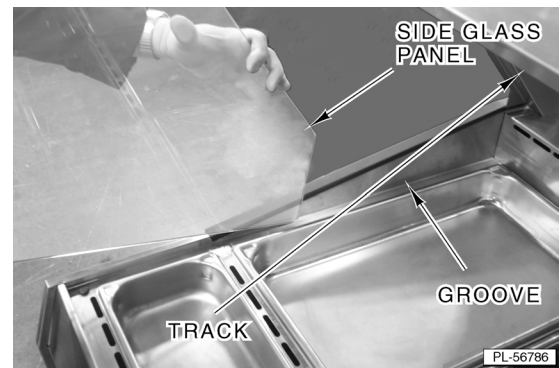

Fig. 1
1. Position the side of glass panel in the groove on the LEFT side of the case (Fig. 1).